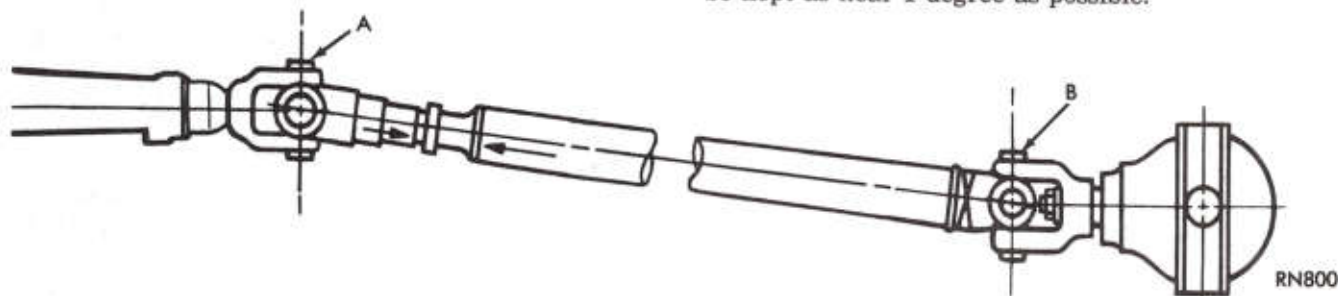

Fig. 4—Yoke Alignment (Single Shaft)
(1) On one-piece propeller shafts, rotate shaft until transfer yoke is in exact vertical position (Fig. 4).
(2) Place a level protractor on yoke bearing "A" parallel to shaft. Adjust protractor so bubble in spirit level is centered. Note reading on protractor scale.
(3) Place level protractor on yoke bearing "B" (parallel to shaft). Adjust protractor so bubble in spirit level is centered. Note reading on protractor scale.
(4) The difference in protractor readings taken at "A" and "B" indicates amount of yoke misalignment. The vertical alignment of one-piece shaft yokes should be kept as near 1 degree as possible.